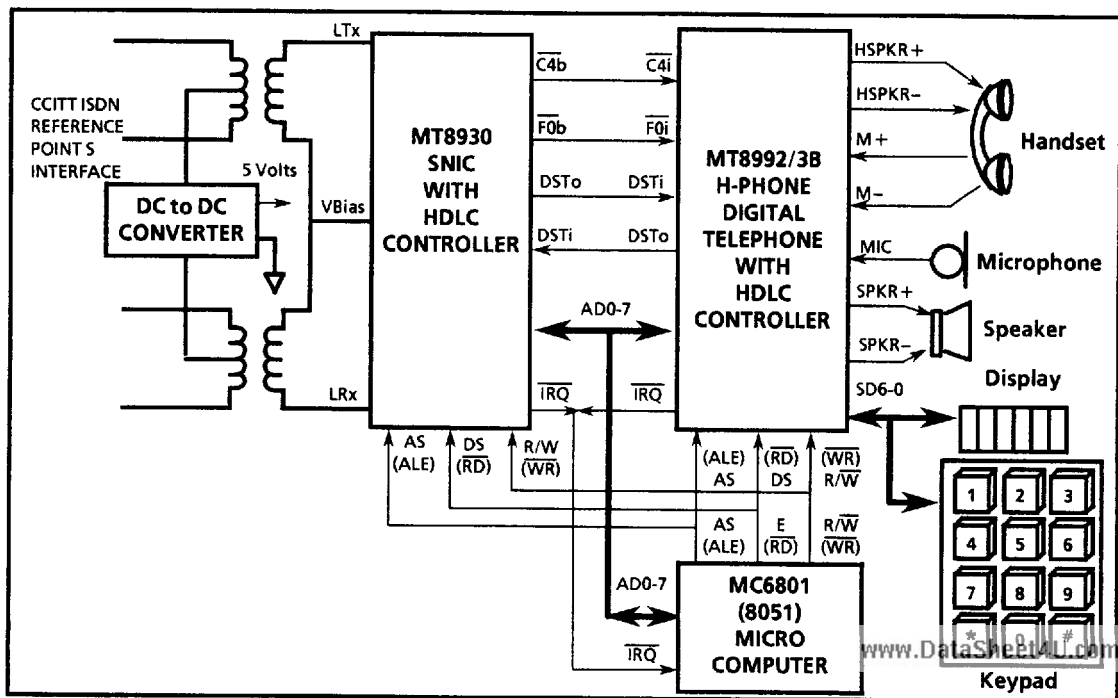

Figure 10 - CCITT ISDN Voice/Data Terminal Equipment - TE1
The MT8992/3B is part of Mitel's ISDN family of components for use in digital telephone sets. When combined with the MT8930 (Subscriber Network Interface Circuit-SNIC) an ISDN terminal equipment (TE) function may be implemented. See Figure 10.